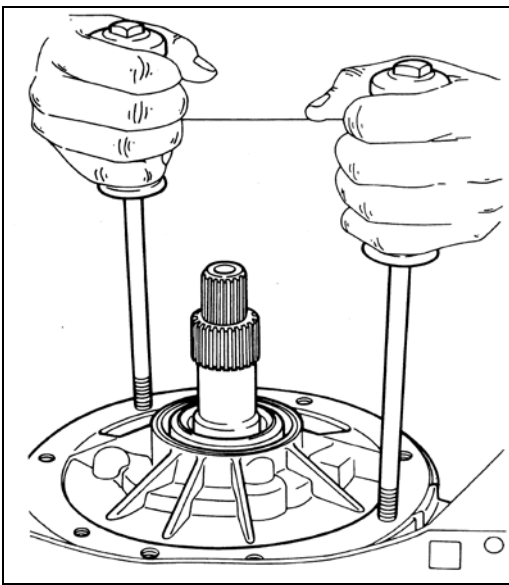
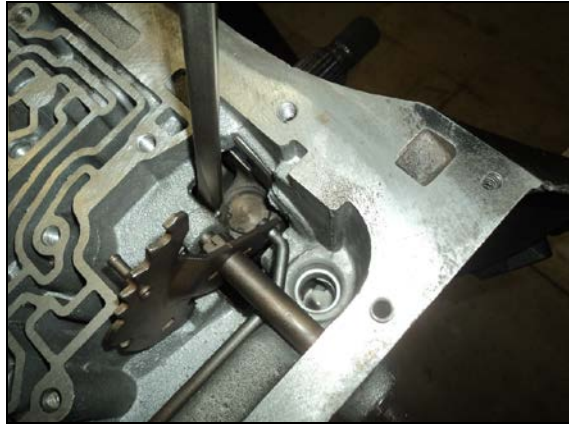

FIGURE 2-47 AMC/JEEP
FIGURE 2-48
Use a pair of slide hammers to remove the pump from the transmission case. Thread the two 3/8-16 slide hammer bolts into the holes in the pump body at the 5 and 10 o'clock positions. If the body is not threaded, use the slide hammers to "tap" threads. Bump outward evenly with the slide hammers to remove the pump. See Figure 2-47. When using one slide hammer, you can pull up on the stator shaft while bumping the slide hammer to remove the pump. If hammers are not available, install two 3/16-18 bolts at the locations shown. Grasp the bolt heads with locking pliers and remove the pump. The pump can also be removed by inserting a stout screwdriver into the case at the location shown in Figure 2-48 and gently prying it out. With variable pitch models, use caution as you guide the stator connector wire out of the case with the oil pump. See Figure 2-49. Remove and discard the pump to case o-ring (7) and pump to case gasket (8). See Figure 2-50.